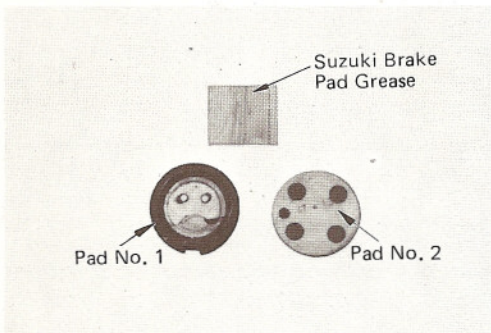
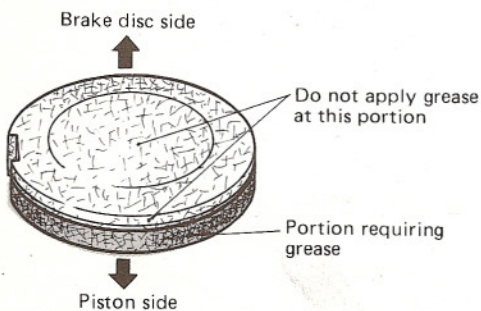

Fig. 4-2-4
Fig. 4-2-5
- 5) Apply Suzuki Brake Pad Grease, which is provided as a component of Pad Set as shown in Fig. 4-2-4, onto the periphery and back plate of pad No. 1 as illustrated in Fig. 4-2-5 in a very thin layer.